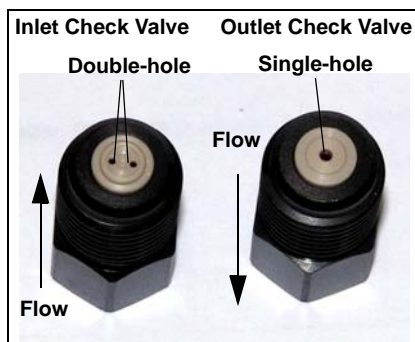

Figure 10-3. Check Valve Assemblies
6. With the double-hole end of a new cartridge (P/N 047747) facing up, drop the cartridge into the *inlet* check valve housing (see Figure 10-3).
7. With the single-hole end of a new cartridge (P/N 047747) facing up, drop the cartridge into the outlet check valve housing (see Figure 10-3).